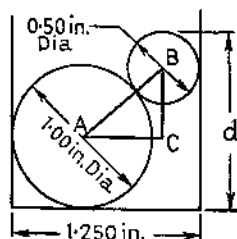

Fig. 39
(1) Calculate dimension  $d$  in fig. 39.